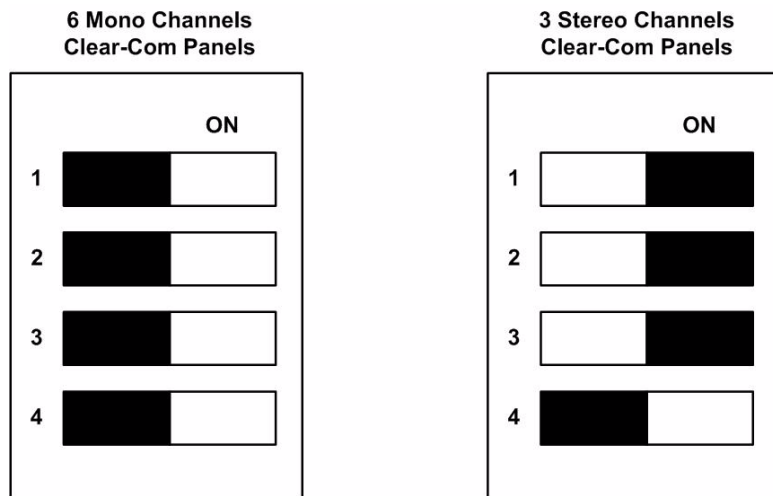
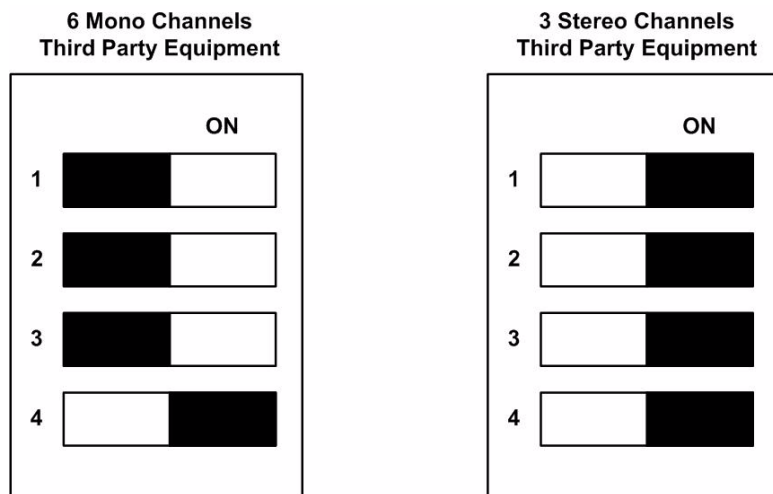

Figure 1-3: AES-6 DIP Switch Settings for Clear-Com Panels
Figure 1-4: AES-6 DIP Switch Settings for Third Party Equipment
Each of the first three DIP switches corresponds to a pair of ports on the rear card which may be set up as two monaural audio ports (OFF) or a single stereo port (ON). When a DIP switch is set for stereo mode the first port in the pair acts as the primary channel while the second port acts as the secondary channel and the port LED will flash to indicate this. The possible DIP switch settings are shown in Figure 1-3 and Figure 1-4.